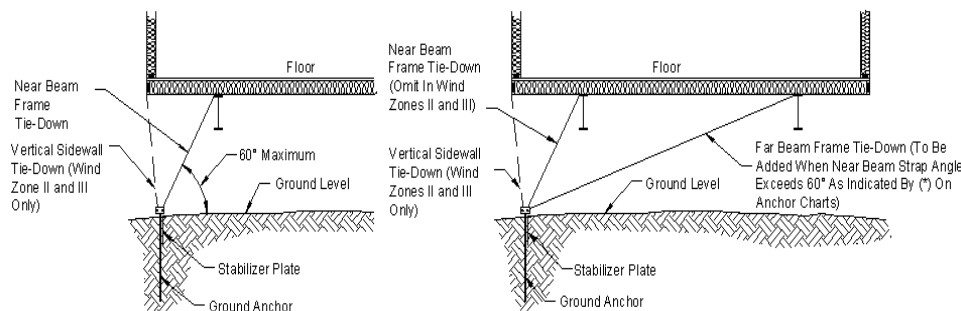

Figure 72. Lateral tie-down configurations
* Indicates a configuration that will require the frame strap connected to the far beam (see **Figure 72**).
There are two primary tie-down configurations: the near beam and the far beam methods. If the anchor spacing selected in the appropriate anchor table (**Table 22**, **Table 23** or **Table 24**) has an asterisk (*) then use the far beam method. Otherwise, use the near beam method (**Figure 72**). Each method varies by wind zone as described below.